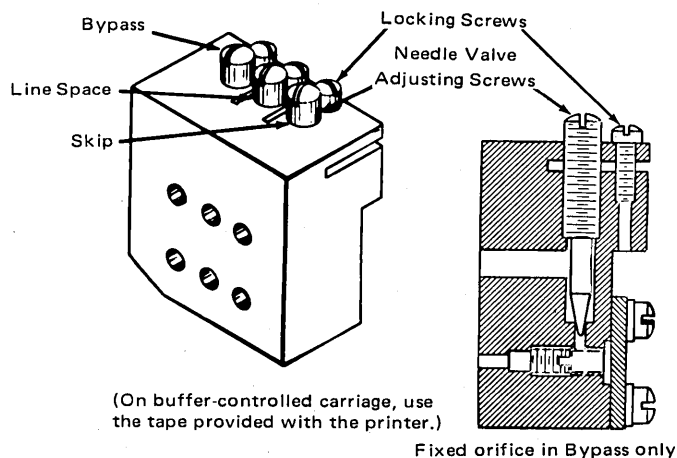

Figure 4-68. Needle Valves
4. Loosen the lock screw for the center needle valve (the center right screw, Figure 4-68).
- b. Back off on the center left screw (Figure 4-68) until you feel the detent nip the detent wheel. The impact is transmitted through the screwdriver.
Loosen the lock screw for the skip needle valve (the front right screw, Figure 4-68). (See 1.10.2.)
- b. Back off on the front left screw (Figure 4-68) until you feel the detent nip the detent wheel. The impact is transmitted through the screwdriver.
- (1) If no nipping is detected after turning out a maximum of five turns, stop the carriage motor so that the hydraulic pumps are not moving. Turn down on the front left screw until it is closed. Then back off five full turns on this screw. Tighten the lock screw (the front right screw).
- (2) If nipping is detected, adjust the needle valve to stop the detent from nipping.
5. Loosen the bypass (right front) needle valve lock-screw (Figure 4-68) just enough to permit adjusting the needle valve.